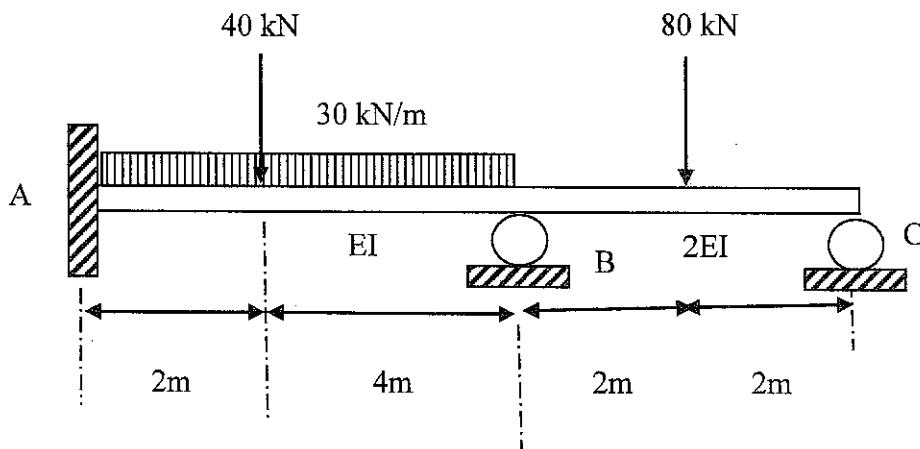

Figure B3 / Rajah B3
A continuous beam is fixed at A, while supported by roller at B and C that carries a uniformly distribution load and point load as shown in **Figure B3**. Use the moment distribution method.
- Figure B3**